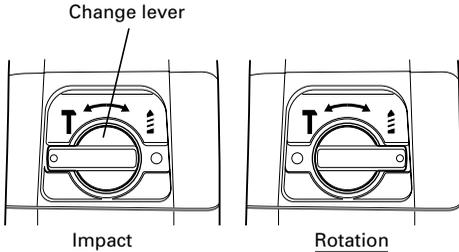

Fig. 8
**8. IMPACT to ROTATION changeover (Fig. 8)**
- The change lever may not turn smoothly when changing from impact drill mode to drill mode. (Fig. 8)